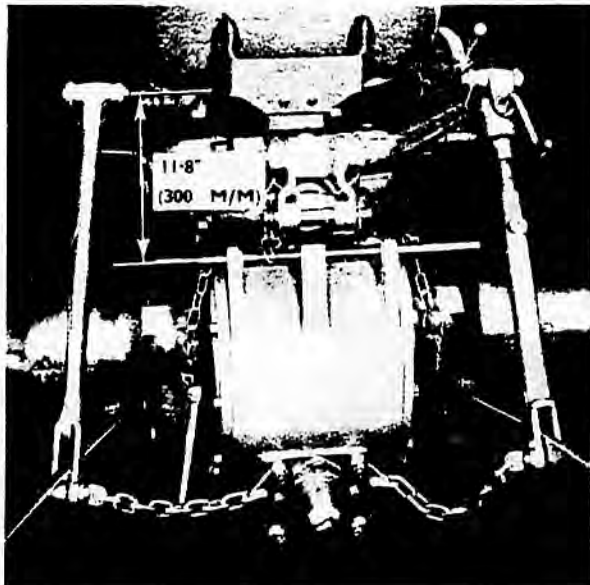

FIG. 31 TRANSPORT SHUT-OFF SETTING
- (i) **Transport Shut-Off Adjustment** (Fig. 31)